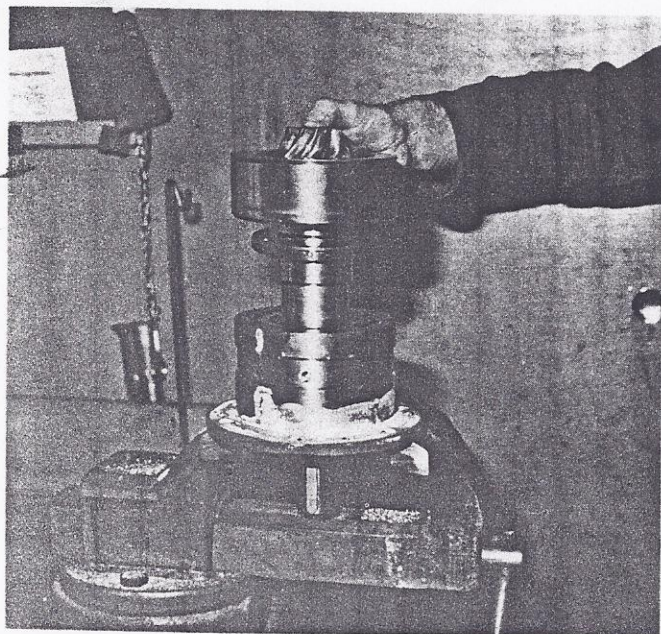

Fig. 22
Tighten locknut set screw (126). If previous dimple in locknut thread does not line up, dimple thread before entering set screw. Protect bearings from drilling swarf while dimpling, fig. 22 + 23.